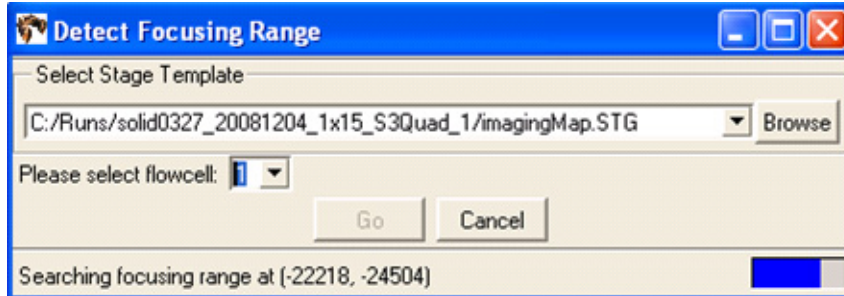

Figure 55 Detect Focusing Range Dialog while detection in progress.
4. Select the flowcell using the drop-down menu, then press **Go**. The Imager works for several minutes while it determines the range. The blue progress bar indicates how close it is to completion (see Figure 55). You can also click **Cancel** so that the Imager aborts the ranging operation.